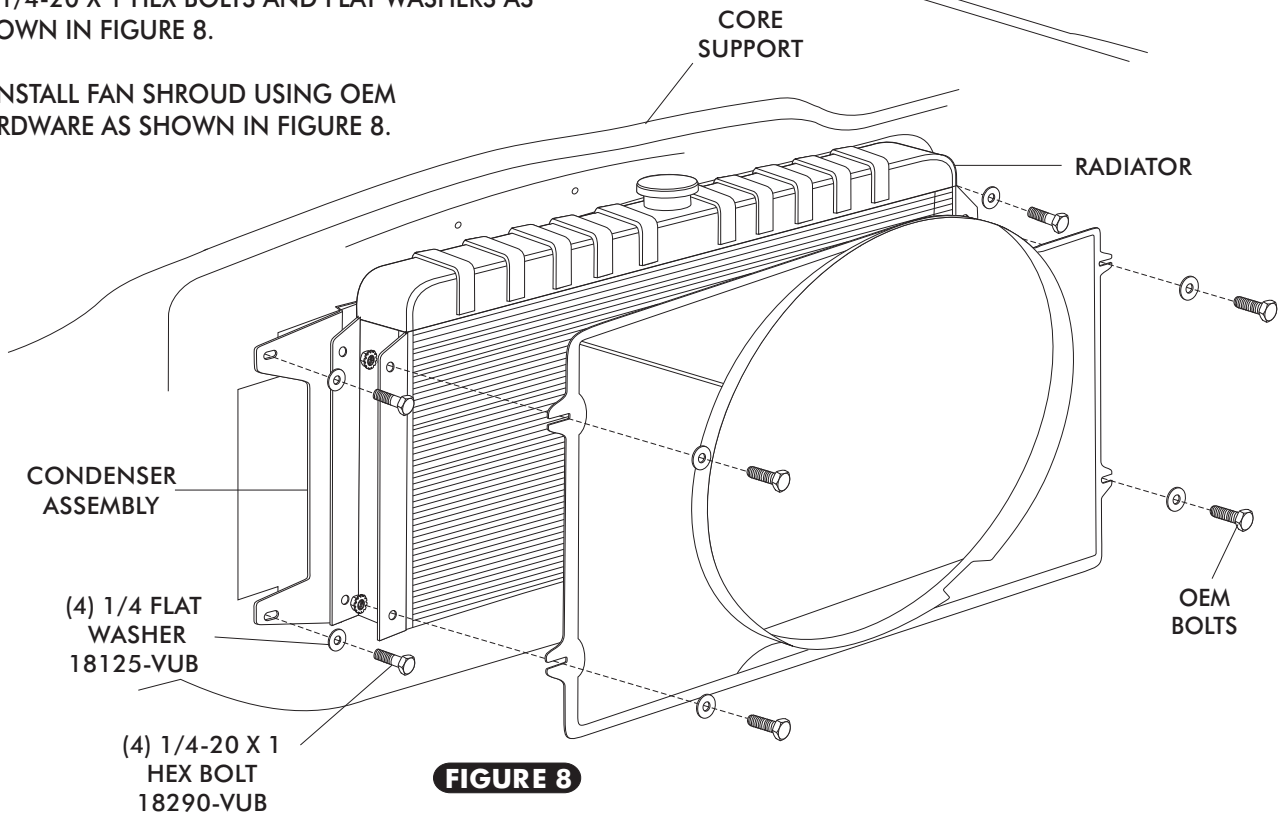

FIGURE 8
- SECURE CONDENSER TO CORE SUPPORT USING (4) 1/4-20 X 1 HEX BOLTS AND FLAT WASHERS AS SHOWN IN FIGURE 8.
- REINSTALL FAN SHROUD USING OEM HARDWARE AS SHOWN IN FIGURE 8.